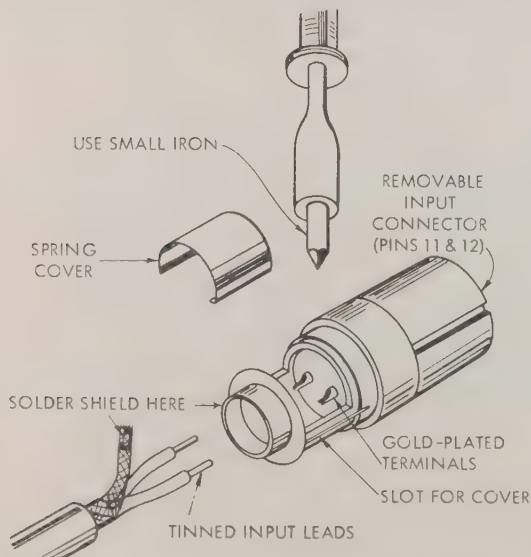

Figure 2-7. Twin-ax Connector Details, Showing Input Wiring
- j. Using a small iron, solder the leads to the gold-plated terminals (Figure 2-7). Solder the shield to the rear of the connector bodies as shown in the drawing.
contact ONLY the body of the Twin-ax input connector to which it is soldered (as described in paragraph 2-15, step "j"). (See Figure 2-7.) Such connections must be made only for the Model 190 module. When the amplifier is installed in the Model 195 Cabinet, the input cable shield must be wired to the input cable connector furnished with the cabinet so that it contacts pin "b" of the INPUT connector (upper center pin of the connector at lower left corner of the cabinet front). (See Figure 1-5.)